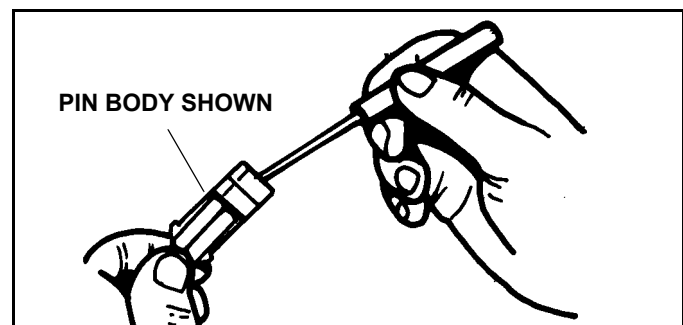

Figure 3-3
4. Locate the terminal lock tang in the connector cavity by looking into the connector from the mating end. Use Terminal Removal Tool (#96102499) to depress the lock tang and gently pull wire to remove wire and terminal from connector body. (See Figure 3-3).